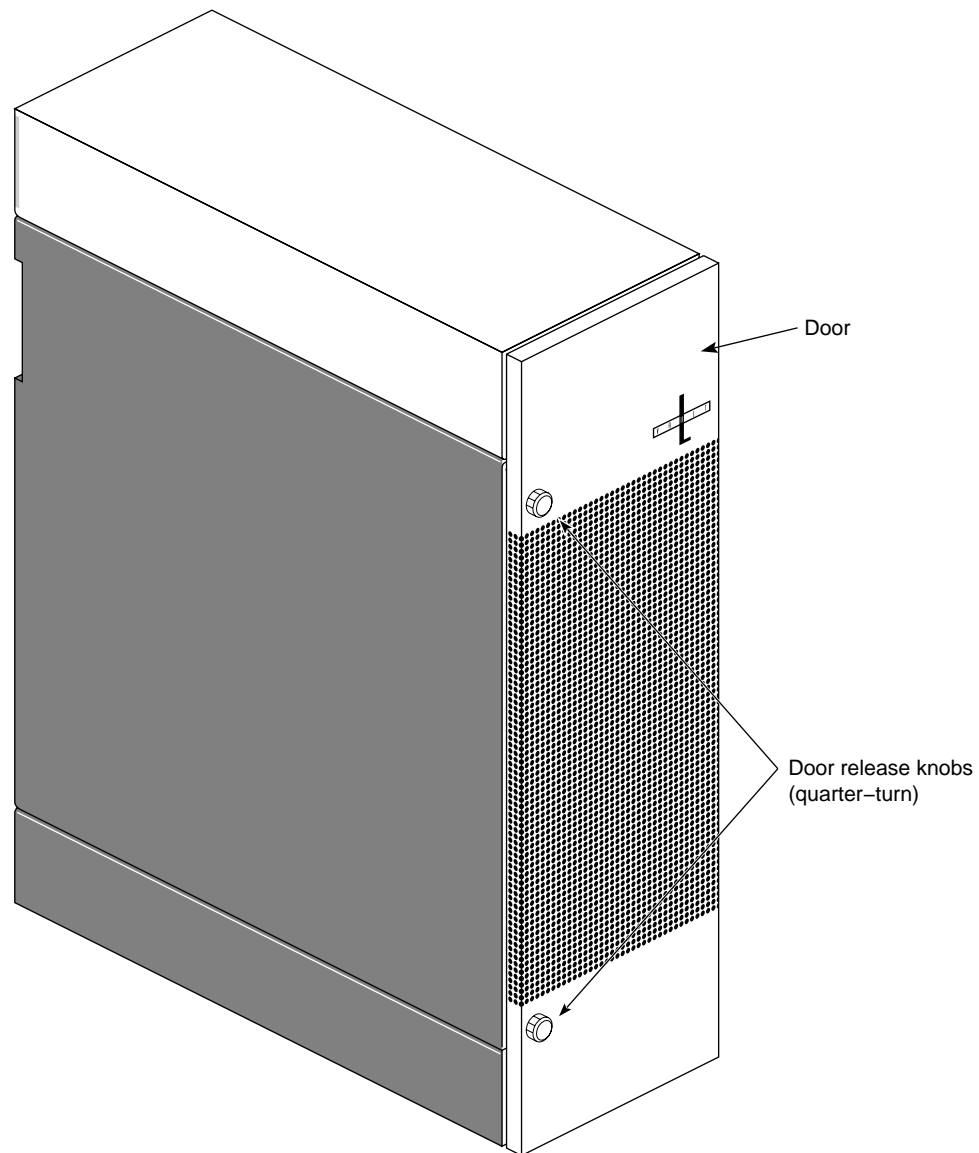

Figure 1-1 Vault L Storage Box (Front View)
- Figure 1-1** Vault L Storage Box (Front View)1-2
The Vault L (Figure 1-1) is available in two configurations:
Figure 1-1 shows the front of the Vault L storage box.